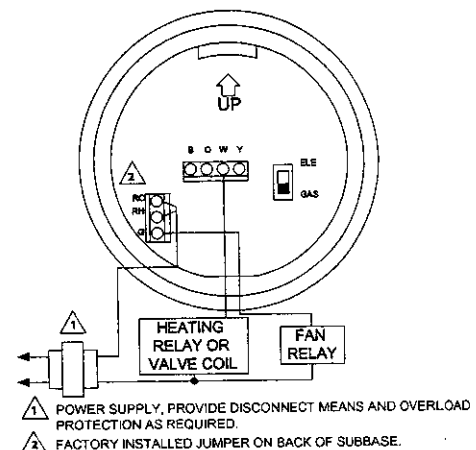

Fig 8. Typical hookup of ES100 in heat-only system with fan.
- Fig. 8 - Heat only system with fan